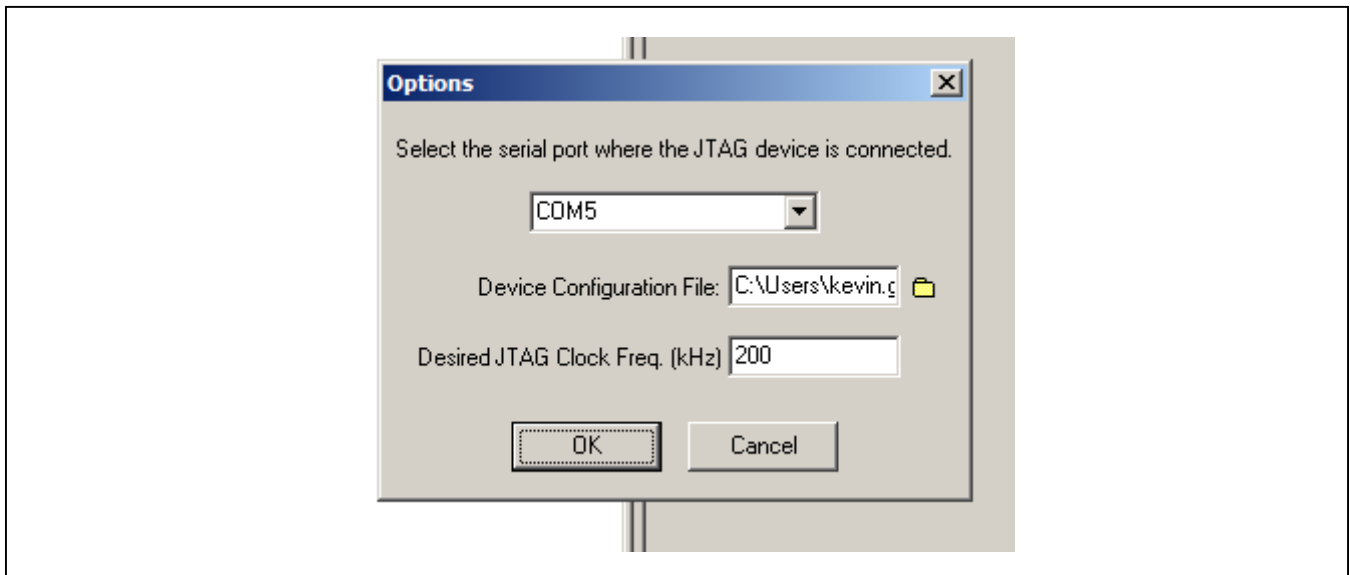

Figure 13. MAX-IDE Device Options
**Device Configuration File**, locate **MAXQ61x.cfg** in the EV Kit Resource Package (Figure 13).